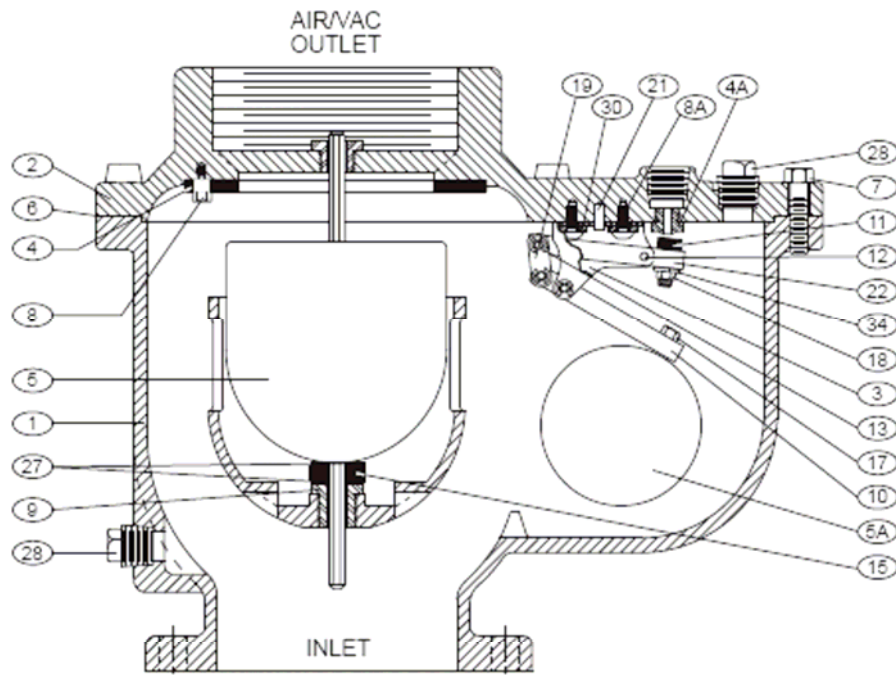

Figure 2. 6"-8" Combination Air Valve
The standard Combination Air Valve body and cover are cast iron. See specific Materials List submitted for the order if other than standard cast iron construction. The internal metal components are stainless steel. The orifice button and seat are resilient Buna-N. The general details of construction are illustrated in Figure 2. The body (1) is flanged for connection to the pipeline. The air/vacuum seat (4) is retained by retaining screws (8) in the cover (2). The air release seat (4A) is threaded into the cover (2) and sealed with the adjustable orifice
All parts must be cleaned and gasket surfaces should be cleaned with a stiff wire brush in the direction of the serrations or machine marks. Worn parts, gaskets and seals should be replaced during reassembly. Refer to Figure 2.